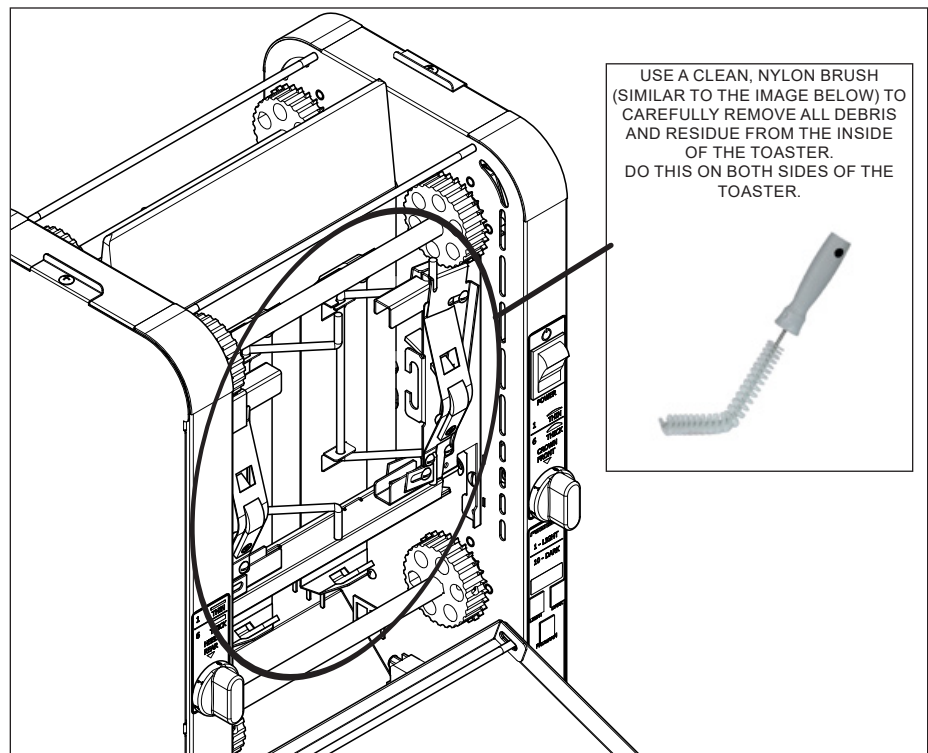

Figure 21. Clean the inside components
7. Use a clean, nylon brush to carefully remove all debris and residue from the inside components of the toaster (Figure 21). Do this on both sides of the toaster.